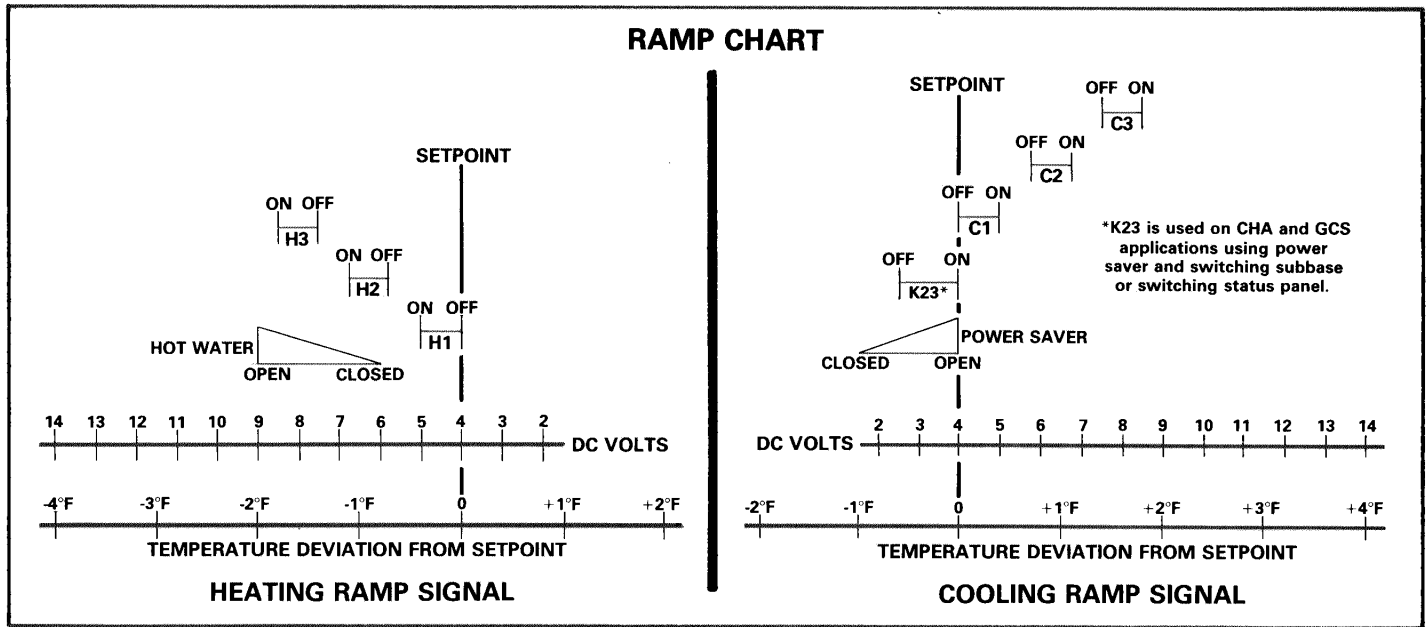

FIGURE 5
- 2 - The heating or cooling ramp signal is transmitted from the room controller to the logic panel. The logic panel cycles the equipment through progressive switching. The correlation between the ramp signals and unit sequence of operation is illustrated in chart form. See Figure 5.